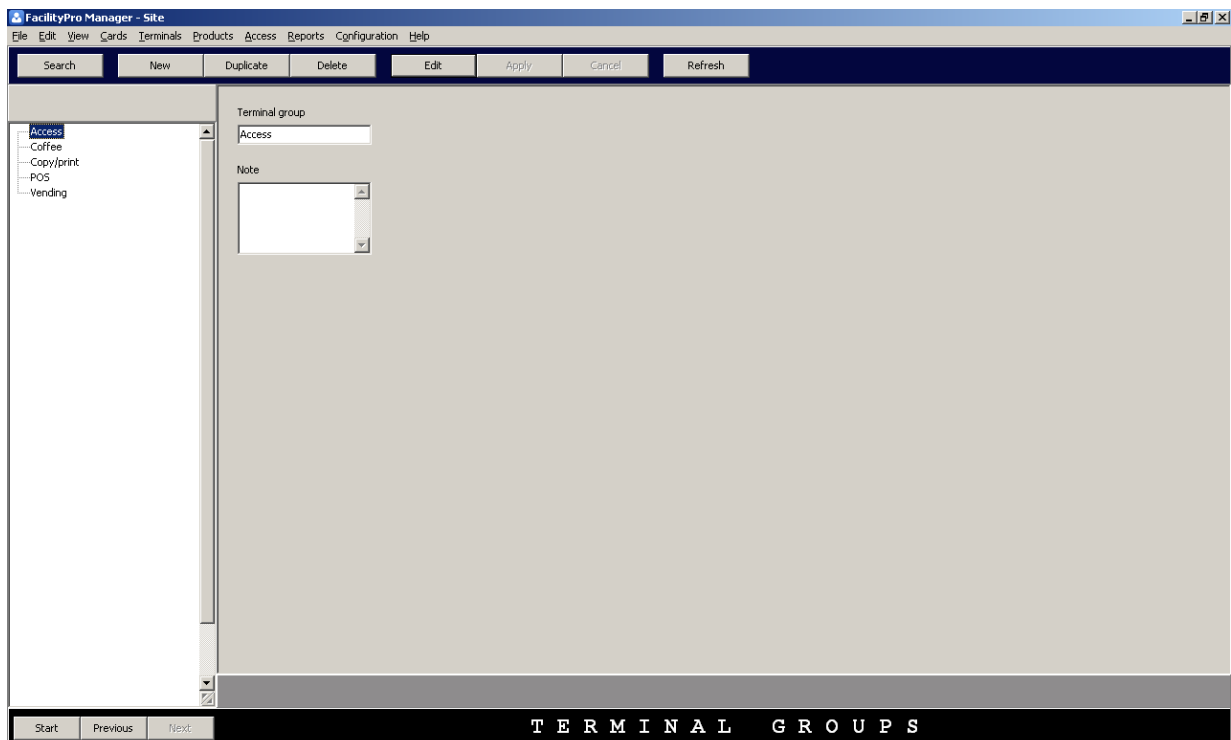

Figure 4-16 The terminal groups data screen
2. Choose **Terminal groups**. You will see the terminal groups data screen (Figure 4-16).